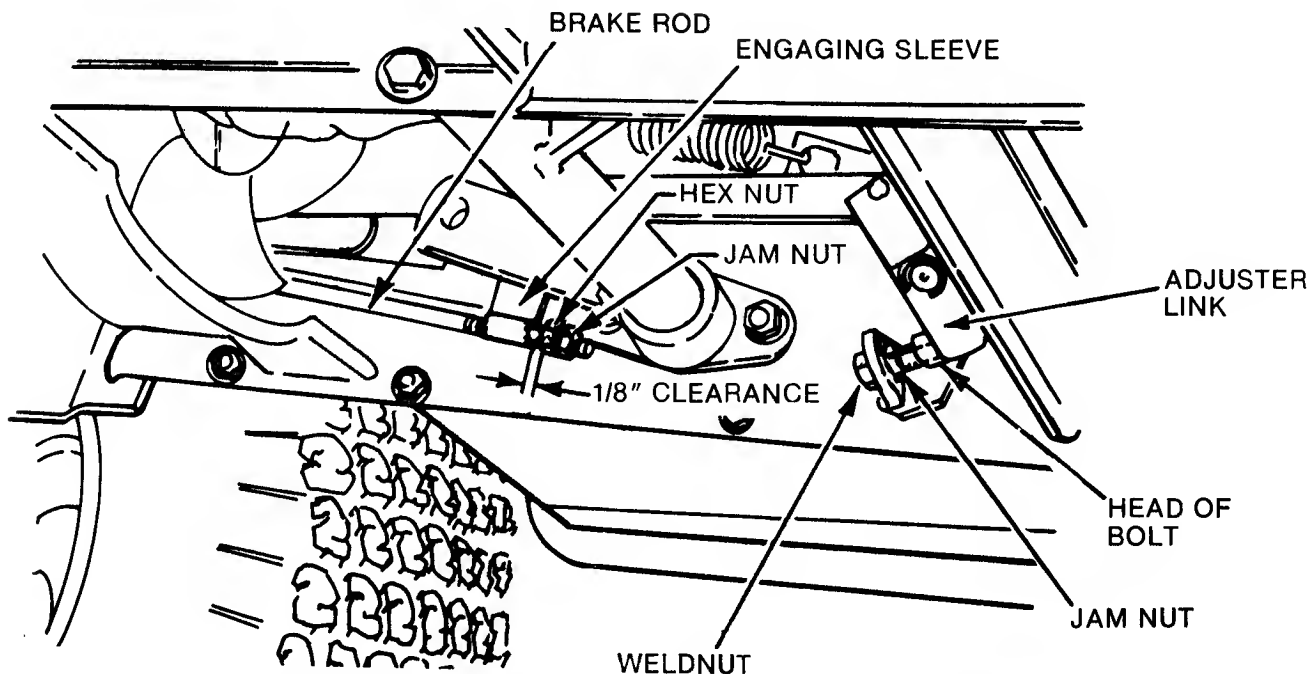

FIG. 3.9--BRAKE ENGAGING SLEEVE CLEARANCE ADJUSTMENT
6. After making the selector link adjustment, if the adjuster screw does not appear to hit squarely against the selector link, it will be necessary to replace the adjuster screw with a 5/16x1-1/4 hex head bolt (Figure 3.9). Loosen the jam nut on the adjuster screw and remove the screw. Install the hex head bolt and jam nut with the head of the bolt toward the selector link to increase the area of contact between the adjustment bolt and the selector link. Make adjustment as previously described and lock jam nut.
7. Place the parking brake lever into the first speed notch and tighten the nut on the end of the brake rod until there is 1/8 inch clearance between the nut on the rod and the brake engaging sleeve of the linkage (Figure 3.9). Install and lock a jam nut against the brake rod nut.